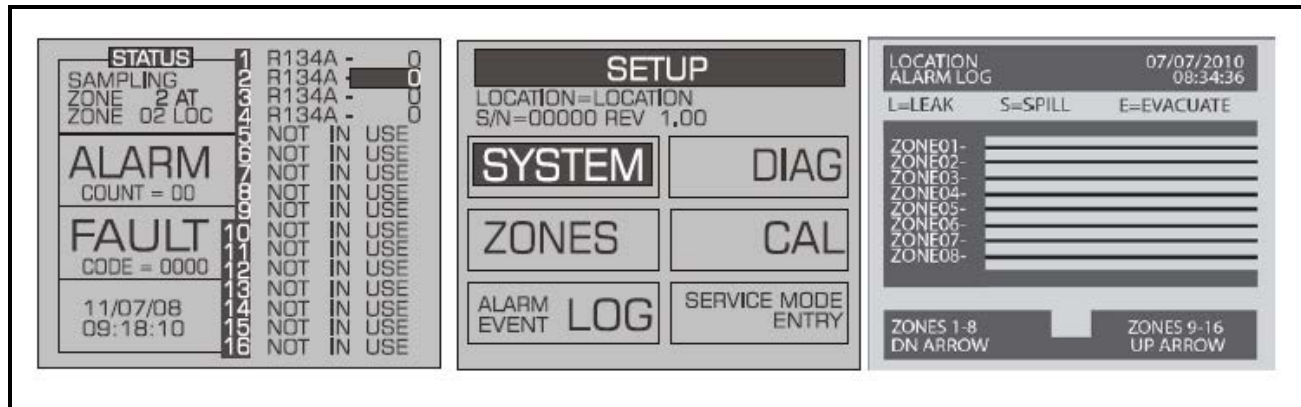

Figure 7-6 - Accessing the Alarm Log
- Press the DOWN arrow key until Alarm Event Log is highlighted, then press **ENTER** to select this option and display the Alarm Event Log (see *Figure 7-6*)